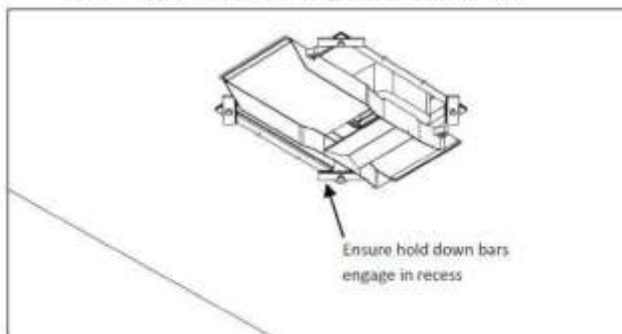

Fig 12: Then engage the four M8 bolts, taking care to ensure the hold down bars slot into their recesses
- As the bolts are tightened ensure that the hold down bars slot into their recesses in the brace (Fig 12).